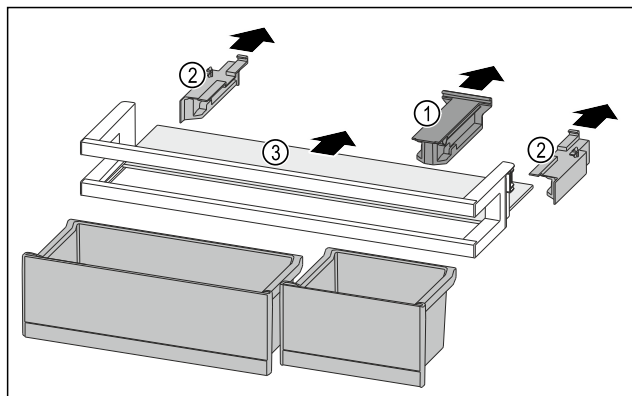

Fig. 148
- Pull off the holding part Fig. 148 (1).
- Pull off the side parts Fig. 148 (2).
- Remove the shelf Fig. 148 (3).